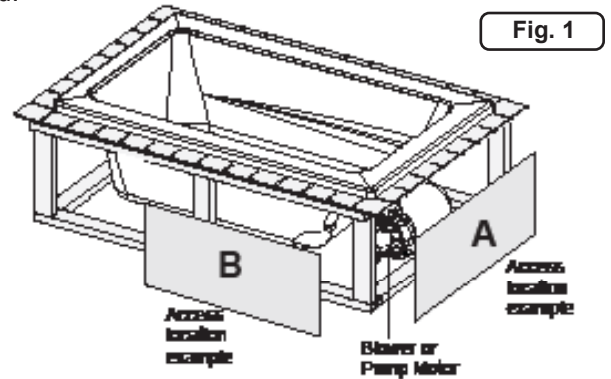
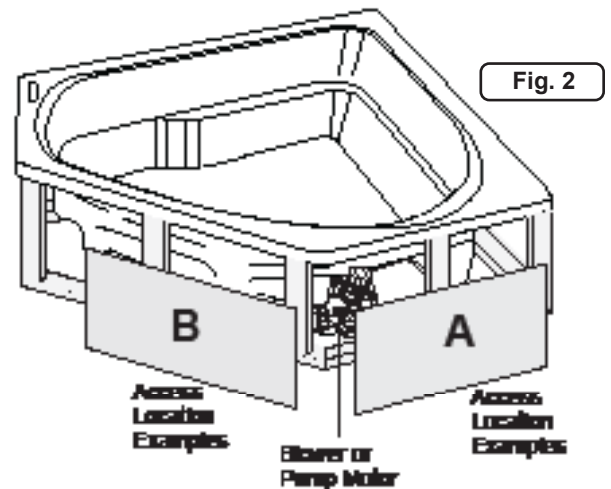

Fig. 1
Fig. 2
- Per UPC code, access must be provided to the pump/motor for your specific model (Figure 1 and Figure 2).